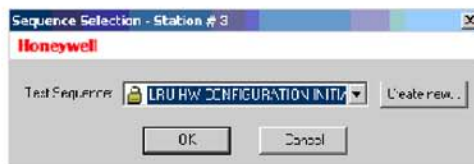

Figure 6. Configuration Memory Initialization Sequence
- 2 The Sequence Selection dialog will open. Select the LRU HW CONFIGURATION INTTIALIZE sequence (see Figure 6).